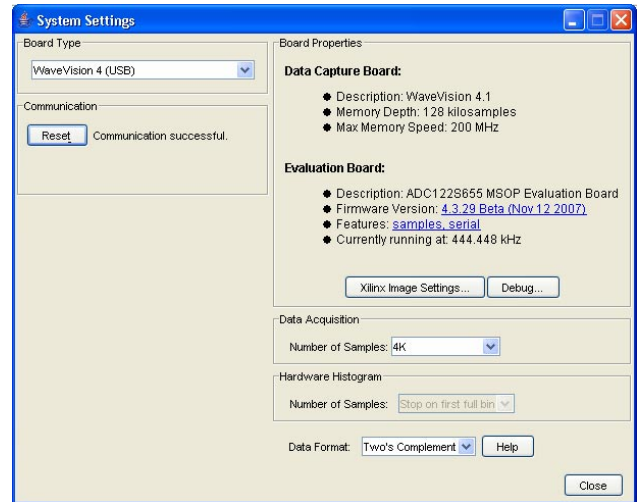

Figure 6: System Settings window
2. From the WaveVision main menu, go to Settings and then Board Settings to open the System Settings window (Figure 6) and select the following: